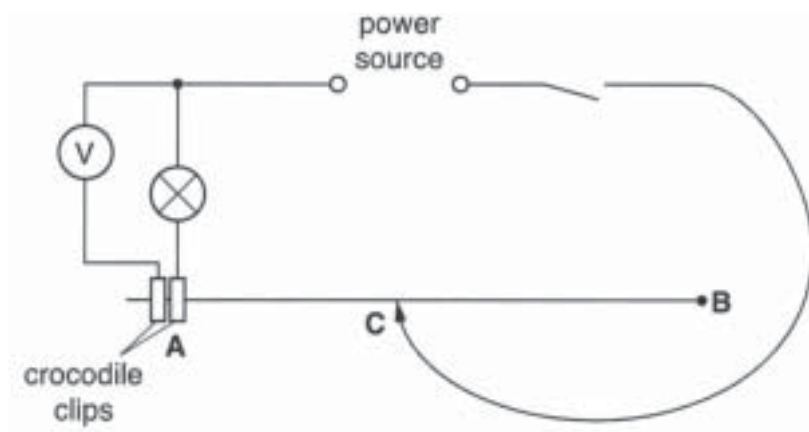

Fig. 3.1
- (v) Two suitable terminals (e.g. crocodile clips) attached to the constantan wire at end **A** of the metre rule so that connections can be made to the circuit shown in Fig. 3.1.
- (viii) Sufficient connecting leads to set up the circuit shown in Fig. 3.1.
- 1 The circuit shown in Fig. 3.1 must be set up for the candidates.